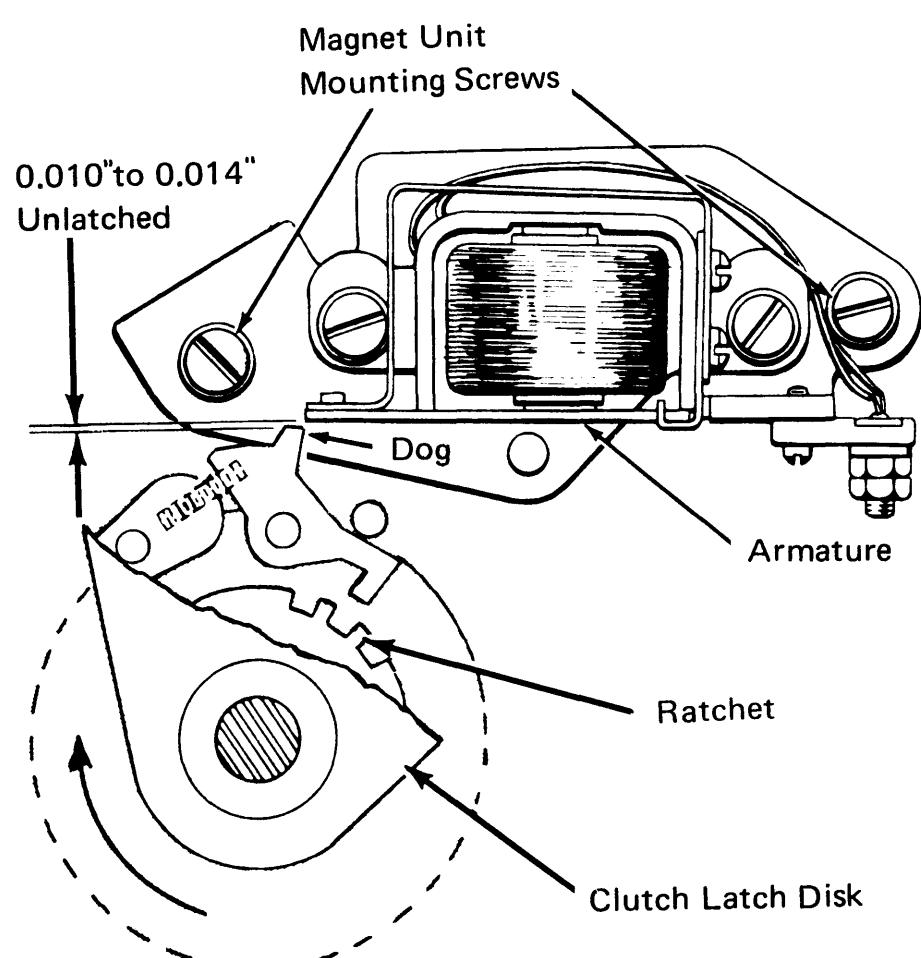

Figure 4-5. CF Clutch Adjustment
3. Position CF magnet unit to obtain 0.010-inch to 0.014-inch unlatching clearance between armature and CF dog when armature is attracted (Figure 4-5).